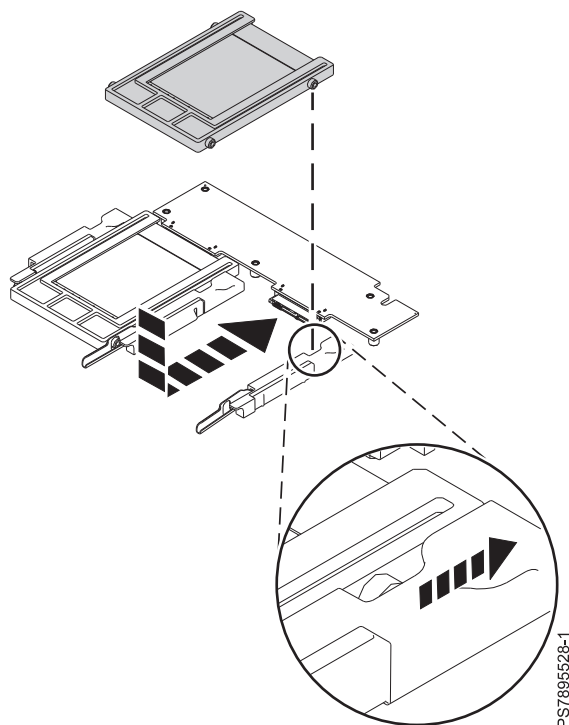

Figure 13. Installing an SSD carrier
Figure 13 shows how to install the disk drive.
9. Place the carrier case into the drive tray and push it toward the rear of the compute node, as indicated in Figure 13 on page 40. When the SSD carrier moves past the lever at the front of the tray, it snaps in place.